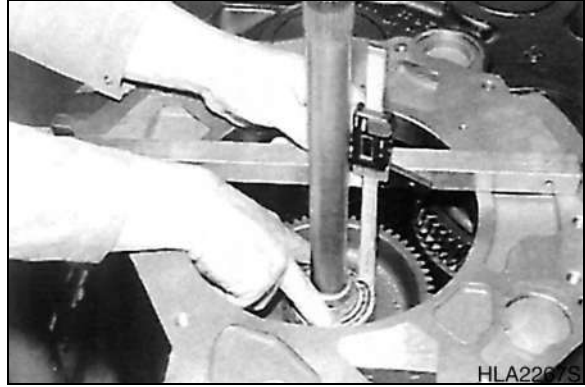
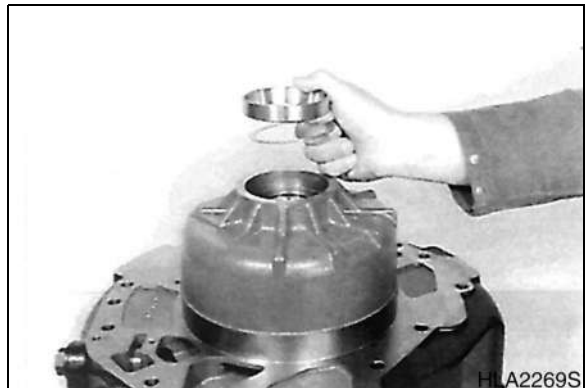

Figure 314
Figure 316
10. Adjust axial play of drive shaft bearing = 0.0 - 0.05 mm (0.0000 - 0.0020 in.) Figure 314 thru Figure 316).